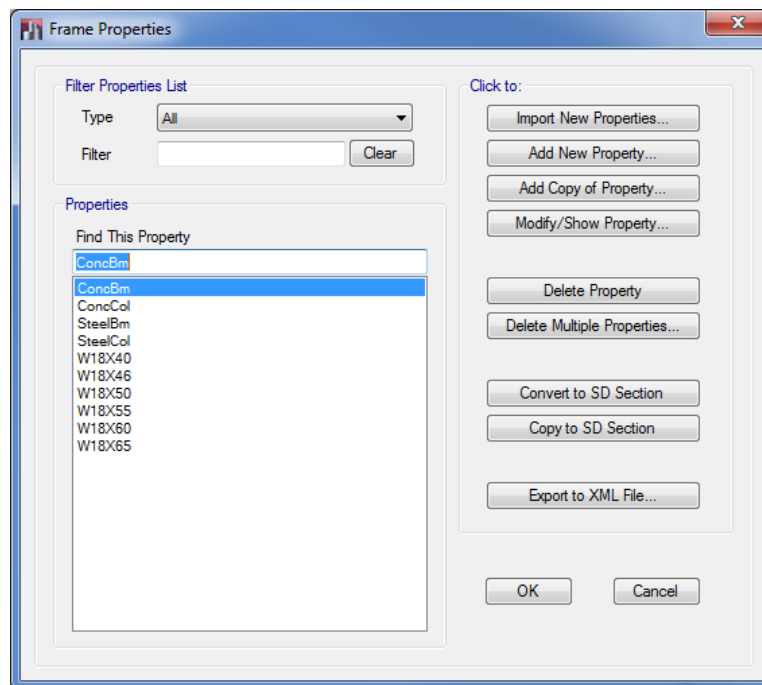

Figure 5-8 Frame Properties form
1. Click the **Define menu > Section Properties > Frame Sections** command, which will display the Frame Properties form shown in Figure 5-8. The previous section explains how to import frame properties into the Properties list.